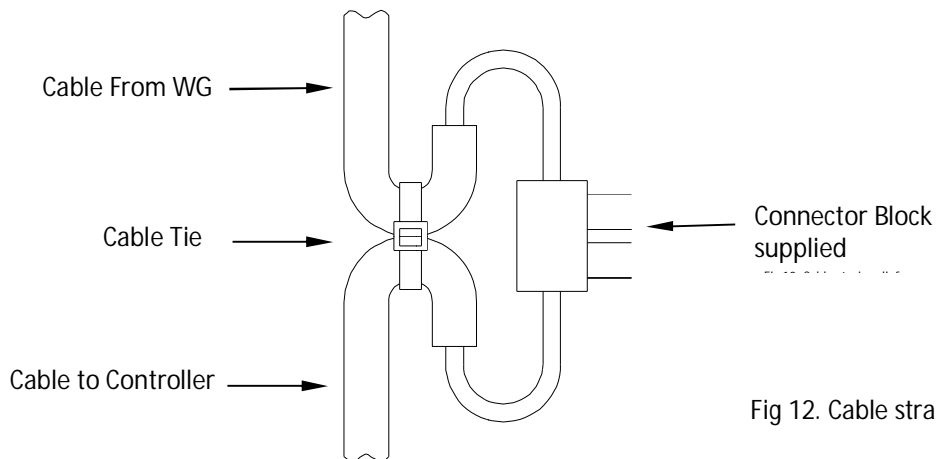

Fig 12. Cable strain relief
2. Wrap the connection with insulation tape to secure/protect from the environment. *It is recommended that cable restraint is fitted to prevent the weight of cable applying excessive load to the connections, a simple method of achieving this is shown in Fig 12.*